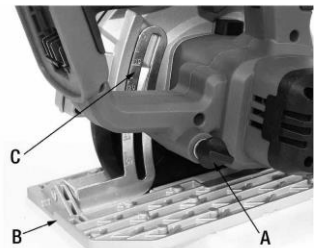

Figure 8
Adjust depth of cut by loosening the depth adjustment lock knob (A) Fig.8, lower the base (B) and set the desired depth, use the depth scale (C) as a guide. Retighten the depth adjustment lock knob.